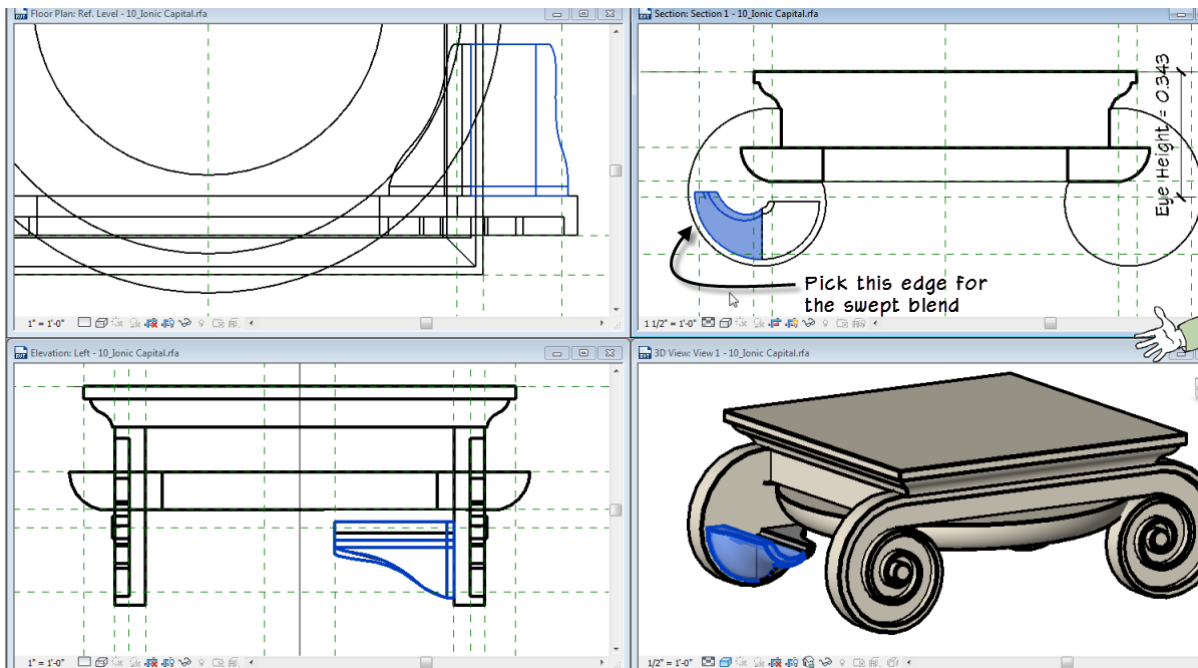

FIGURE 25—CREATE A SWEEP USING THE PICK PATH OPTION
- ⇒ Click Finish Edit Mode (see Figure 25).